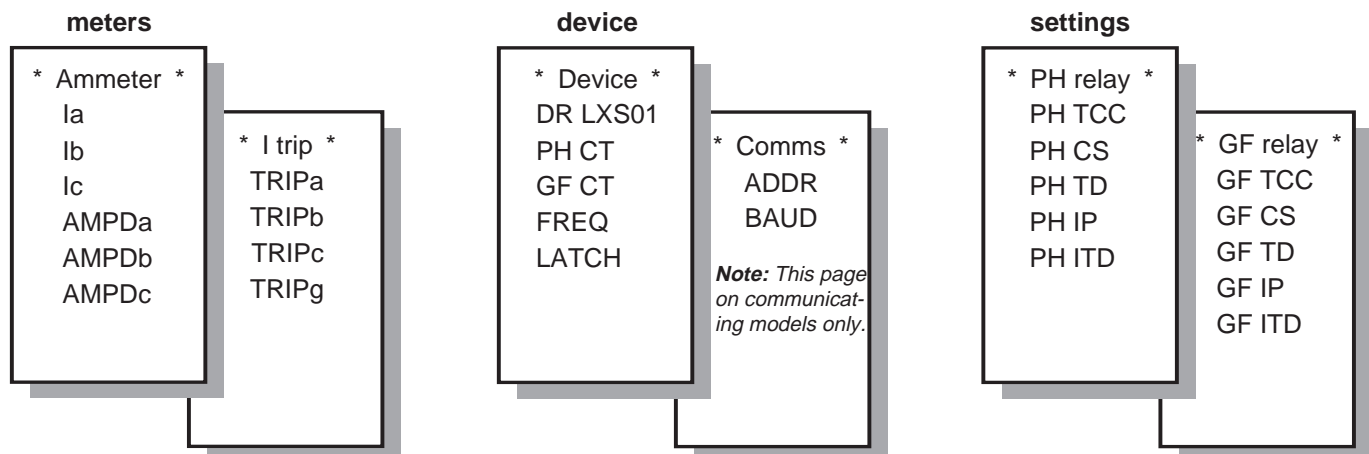

Figure 37: Pages available on digital relay
The digital relay settings and metered values can be viewed by pressing (individually) the *meters*, *device*, and *settings* buttons. The readings and settings are arranged in loops, as shown in figure 37. For definitions of the readings and settings shown, see **Glossary**, page 73.
Each loop is divided into pages. Each page has a title, indicated by an asterisk before and after (e.g., “\* Ammeter \*”). See figure 37.
5. Repeat steps 2c–4 to set parameters for other *device* settings (refer to figure 37, page 34, for page menu structure). *Note: When repeating step 2c, a setting other than PH CT displays.*
10. Repeat steps 7b–9 to set parameters for other phase relay settings (refer to figure 37, page 34, for page menu structure). *Note: When repeating step 7, a setting other than PH TCC displays.*
14. Repeat steps 11b–13 to set parameters for other ground fault relay settings (refer to figure 37, page 34, for page menu structure). *Note: When repeating step 11b, a setting other than GF TCC is displayed.*